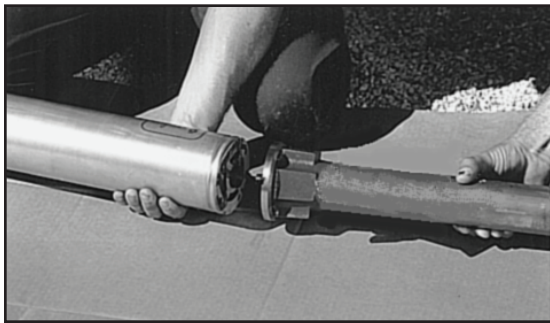

Figure 1: Aligning Pins
9. Place the gasket on the end of the PMA, aligning locating pin and bolt holes (Figure 1).